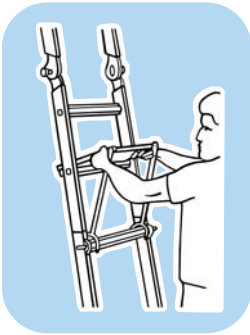

Figure G-3
3. Place platform at desired height (see figure G-3).